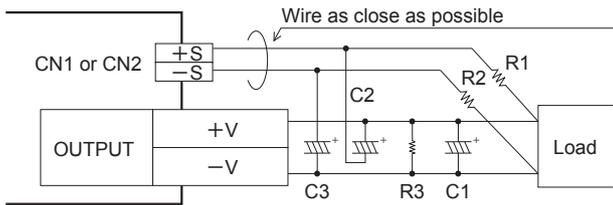

Fig. 1.4 When using remote sensing function
- Please see Fig. 1.4 if you use the remote sensing function.
- ① Wire carefully. When a connection of a load line becomes loose (due to such factors as loose screw), the load current flows to the sensing line and internal circuits of the power supply may be damaged.
- ② Use a sufficiently thick wire to connect between the power supply and the load and keep the line drop at 0.3V or below.
- ③ Use a twisted pair wire or a shielded wire as the sensing line.
- ④ Do not draw the output current from +S or -S.
- ⑤ When the remote sensing function is used, the output voltage of the power supply may show an oscillating waveform or the output voltage may dramatically fluctuate because of an impedance of wiring and load conditions. Please check and evaluate carefully before using the remote sensing function. If the output voltage becomes unstable, we suggest you to try to connect C1, C2, C3, R1, R2 and R3.
- ⑥ If the output voltage is unstable because the sensing line is long, adjust R1 and R2. Please contact us for details.